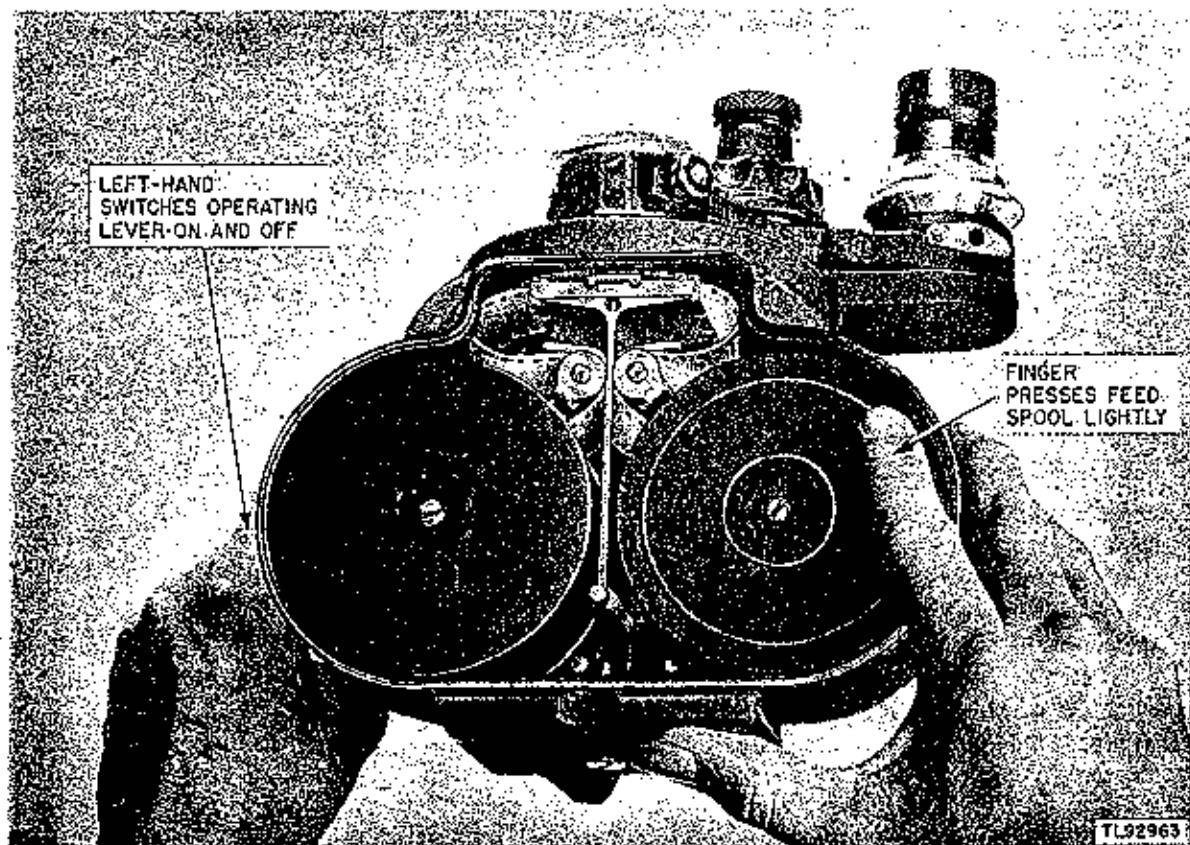

Figure 29. After loading, Camedia PH-330-(*): testing for performance.
n. With the camera door still open, quickly press the operating lever on and off (fig. 29). Keep a finger pressed lightly on the feed spool (fig. 29) to prevent backlash and fogging of the unexposed film. If the loops do not buckle or alter their shape during this test run, the camera is threaded properly. Replace the camera door and turn the door latch to the CLOSED position. If the camera door does not fit easily in place on the camera housing, the gate arm is not fully closed.